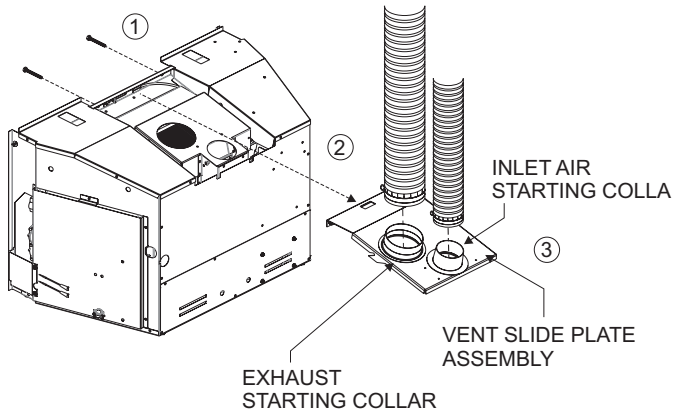

Figure 12
- If necessary, remove the 2 hex screws from the vent slide plate assembly. Remove the slide plate from the top of the insert. See Figure 12.